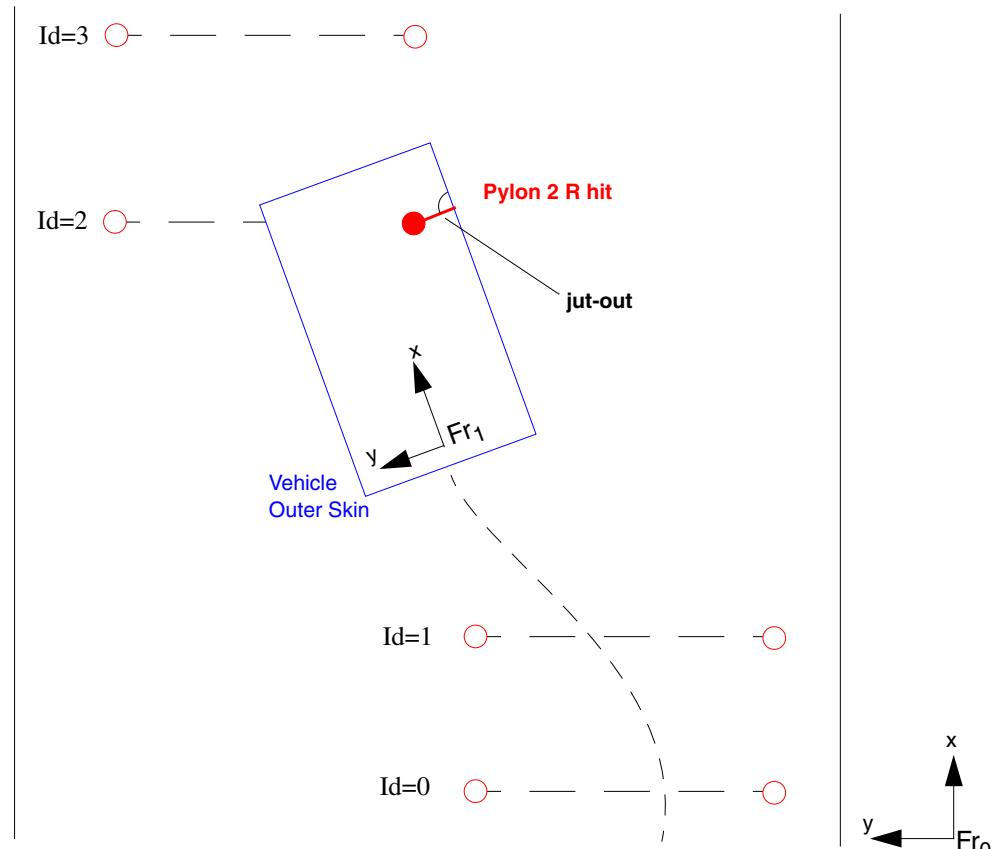

Figure 23.2: Pylon detection
- for the calculation of the jut-out the vehicle outer skin is taken (see Figure 23.2).